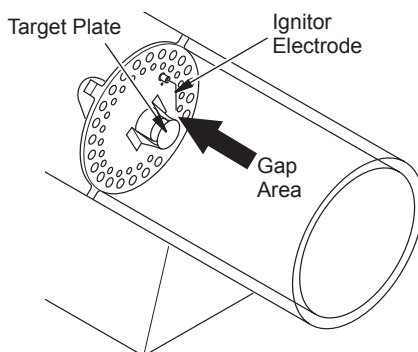

Figure 16 - Clearance between Ignitor Electrode and Target Plate
7. Set gap between ignitor electrode and target plate to 0.17" (4.3 mm) (see Figure 16).